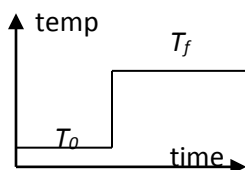
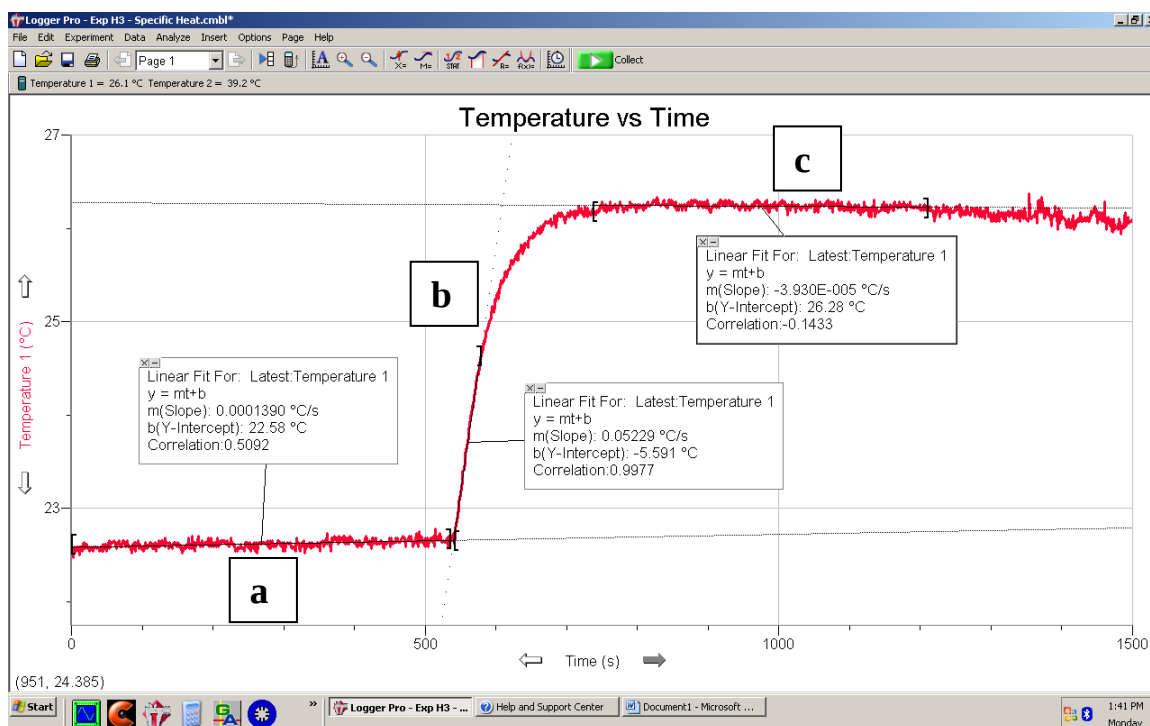

Figure 8.6.
Figure 8.7. Typical data for probe #1.
- 15. Wait until the temperature has stabilized (*at least* 10 minutes, longer if necessary) and you have enough data to make linear fits as in Figure 8.7. Press the “Stop” button on Logger Pro.
- 18. Change the maximum numbers on the temperature axis to 20 so that you can see the Probe #1 graph only, as shown in Figure 8.7.
The asymptotic lines, shown in Figure 8.7, mimic the straight lines in Figure 8.6:
- ☐ You will examine why this graph deviates from the ideal of Figure 8.6 in the analysis questions.
1. If you look at your graph from Part I, you will notice that it deviates from the ideal case shown in Figure 8.6.